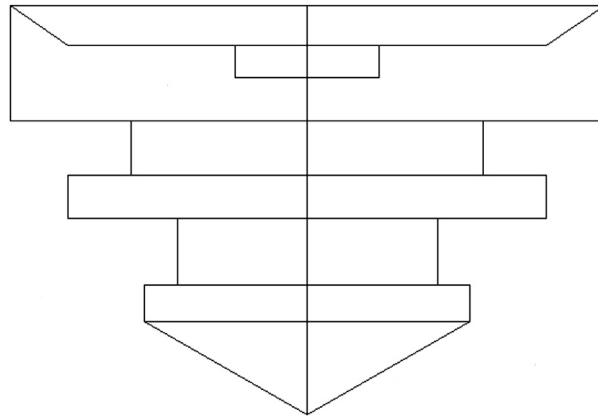

FIGURE 24.3
Step 5. Here, you can ask for a full 360° revolution by just pressing Enter, but instead type in 270, so we can see a cutout of the part. If you are in 3D, you can also just trace out the revolution angle with movements of your mouse. For now though, you see a 2D revolved surface, as in Figure 24.3.